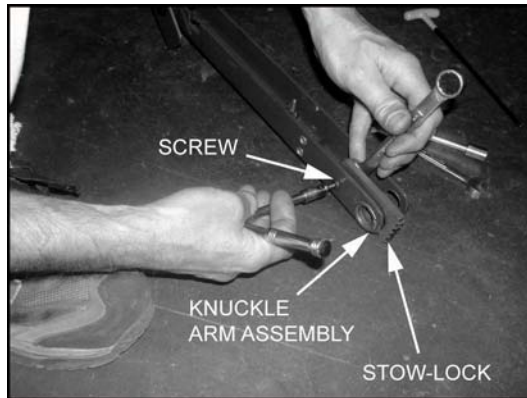

FIGURE 3-32
7. Refer to **Figures 3-32**. Remove screw, nut and three plastic washers to detach stow-lock latch from knuckle arm assembly. Retain attaching hardware for installation.